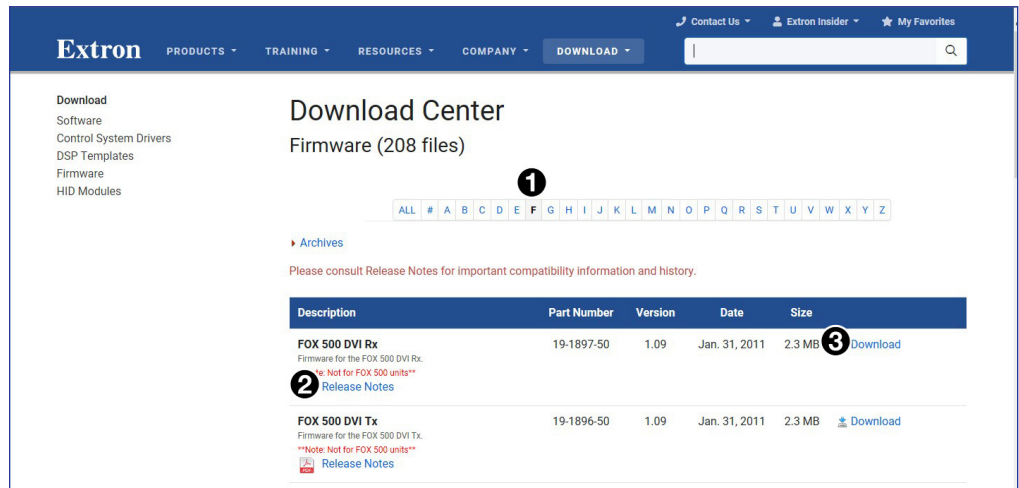

Figure 19. Firmware Page with Alphabetic Navigation Bar
- a. Click the letter **F** from the alphabetic navigation bar (see figure 19, ❶).
- c. (Optional) Click **Release Notes** (❷) for more information about the firmware update.
- d. Click **Download** (❸). The product download screen opens.